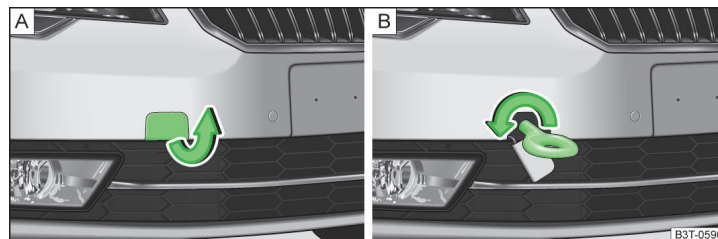

Fig. 185 Removing the cap / installing the towing eye
- Remove the cap from the front bumper » Fig. 185 - A.
- Screw in the towing eye by turning to the left up to the stop » Fig. 185 - B and tighten as much as possible. For tightening purposes, we recommend, for example, using the wheel wrench, towing eye from another vehicle or a similar object that can be pushed through the eye.